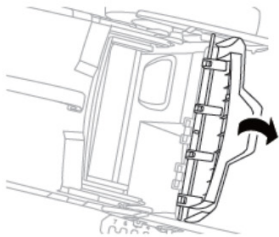
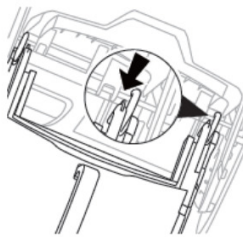

Fig.4D
Fig.4E
- 1) To fit: Raise the rear cover and hitch the grass catcher on rear of mower. (Fig.4D/ Fig.4E/ Fig.4F)